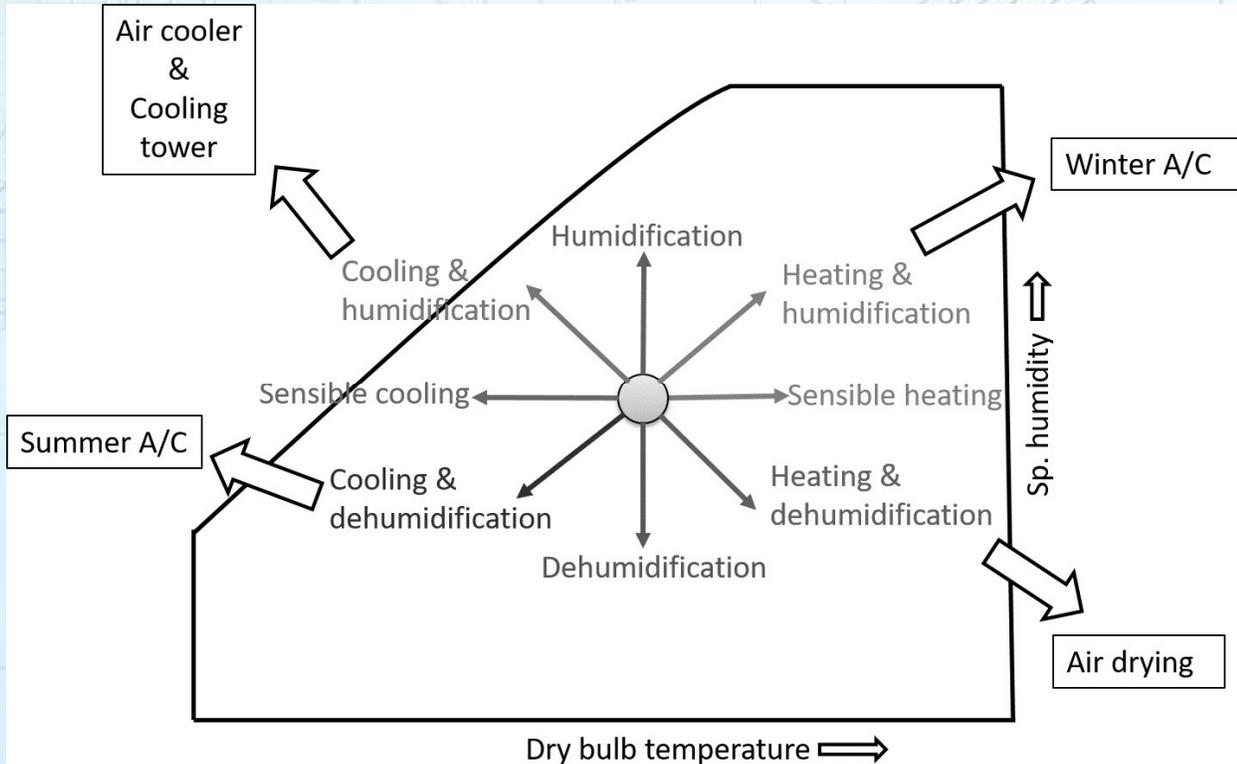

Fig.2.14 – Summary of psychrometric processes on psychrometric chart
- Representation of each of the psychrometric processes are on psychrometric chart Fig. 2.14.